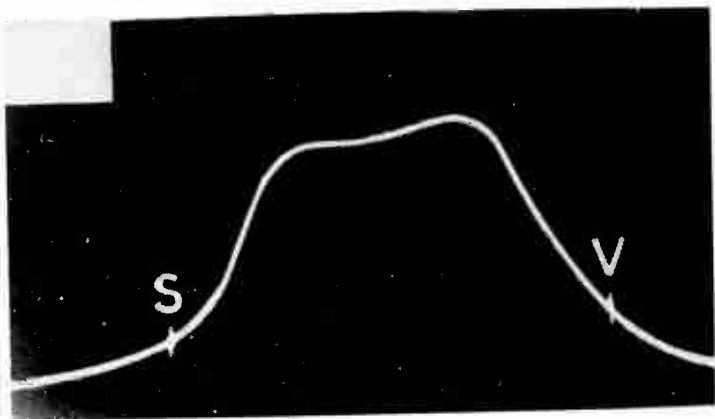

Fig. 3-4. Video marker too low and sound too high.
8. Video i-f too low on the gain curve (Fig. 3-4) reduces strength of sync pulses, which are of low fundamental frequencies. It reduces picture strength or contrast, and when